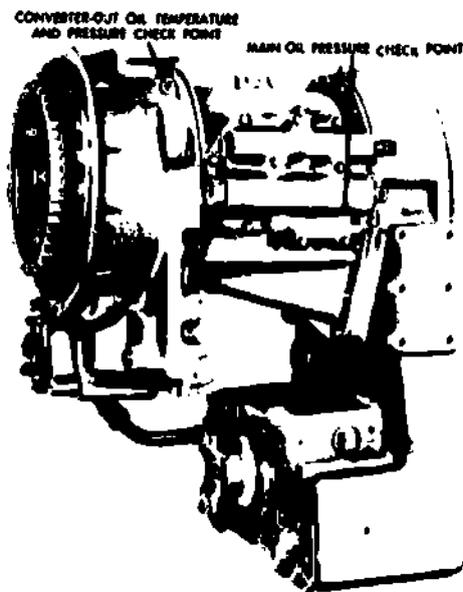

Fig 3-18. Pressure and temperature check points of a CRT-3331 torqmatic transmission.
- (1) **Diagnosis.** In addition to noise caused by worn or defective parts such as gears and bearings, the hydraulic system in the torque transmission causes some problems. Because the transmission operates in oil and the transmission hydraulic systems are run by the same oil, most of the maintenance is concerned with oil replenishment and oil cleanliness. Low oil level, insufficient oil pressure, overheating, and contaminated and foaming oil are some of the problems encountered. Low oil level, a plugged strainer, a defective oil pump and aerated (foaming) oil can cause low converter-out pressure. Since the clutches are engaged by oil pressure, there may be insufficient pressure on the clutches to cause them to engage. High oil temperature can be caused by low oil level, low converter-out pressure, clogged or dirty heat exchanger, locked stators, or overheated engine cooling system. Normal converter-out temperature is 180° F and should not exceed 250° F at any time. Foaming can be caused by incorrect oil, overfilling, leaky system, or contamination. Some of the contaminants are water from condensation or supply source, dirt, and metal particles from the transmission gears, bearings, or other working parts. To properly check and diagnose the transmission, it must be cleaned, serviced, and pressure and temperature gages used. It must be clean to determine the location and cause of leaks. It must be serviced to insure that it contains the proper lubricant and is at the correct level; check the TM to determine if the oil level should be checked when hot or cold. Hot readings are taken with the temperature at 180° F. Oil temperature and pressure must be checked to determine if the problem is caused by the hydraulic system or by defective internal parts.
(2) **Repair.** Torqmatic transmission repairs below the depot maintenance level are limited to tightening loose connections, checking pressure and temperature, cleaning and replacing filters and strainers, and making minor adjustments and repair, internal repair, overhaul, and rebuild are performed at the depot level. Intermediate maintenance generally consists of the assembly being removed and replaced with a new or rebuilt one. Removal and installation procedures vary with the different vehicles. For example, the 3-ton hydraulic crane is sectionalized to facilitate transmission removal in addition to helicopter transporting. Therefore the sectionalization skids and tools will be required to remove and install a replacement transmission. Some vehicles, such as the TEREX crawler-tractor, require the transmission to be removed with other components as a unit, then removed and replaced. It should also be noted that a torqmatic transmission from one vehicle will not fit another vehicle. The method of mounting it and the location of the engine and propeller shaft connections are different although it is the same model transmission. Since the procedures for removal and installation vary and the method of mounting and connecting are different, a mechanic should refer to the TM for the specific vehicle before attempting to replace the assembly. Although internal repairs are not performed at the lower echelons, the transmission is thoroughly checked before being replaced. A stall test is performed and pressure checks made to insure that the problems are not caused by lack of maintenance at the lower echelon. To perform a full stall and pressure test, check the oil level and operate the engine and transmission long enough to bring them to operating temperature. Conduct the test according to the procedures outlined in the TM for the vehicle. Figure 3-18 shows where the pressure readings are obtained on one torqmatic transmission; other TM's will show the location for checking a specific vehicle. Engine rpm readings are taken from the vehicle tachometer unless there is doubt about its accuracy.